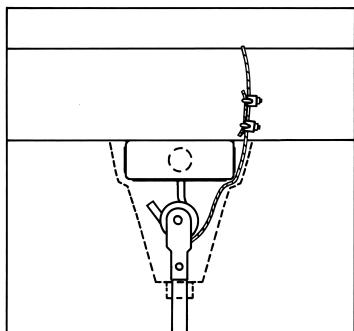

Figure 3
9. This fan is equipped with the required "secondary support" cable. This cable must be affixed to the beam structures and securely clamped in such a manner to support the weight of the fan in the event the mounting hook or other parts fail. After wrapping cable around a structural member that will support 300 lbs., secure cable with supplied cable clamps as illustrated in Figure 3. (Note: Any additional materials needed for specific installations may be purchased from your local distributor.)
IMPORTANT CAUTION: The safety cable must not be placed between the rubber roller and hook but as illustrated in Figure 3.
10. When hanging fan on factory supplied "J" hook, make sure cable at top of rod is positioned behind "J" hook as illustrated in Figure 3.